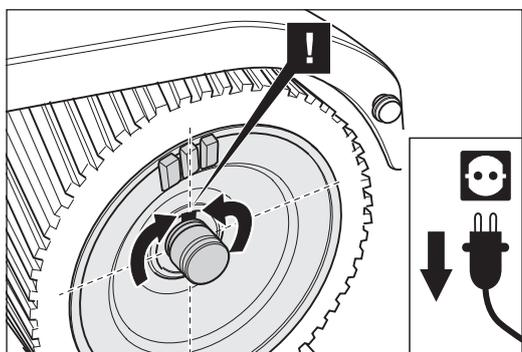

Fig. 49 Turn the sanding drum in such a way that the groove is pointing upwards, to ensure that the parallel key is not lost. **Similar to figure.**
- 9 Turn the sanding drum in such a way that the parallel key is pointing upwards to ensure that the parallel key is not lost (Fig. 49). Now pull the sanding drum out sideways out of the housing.